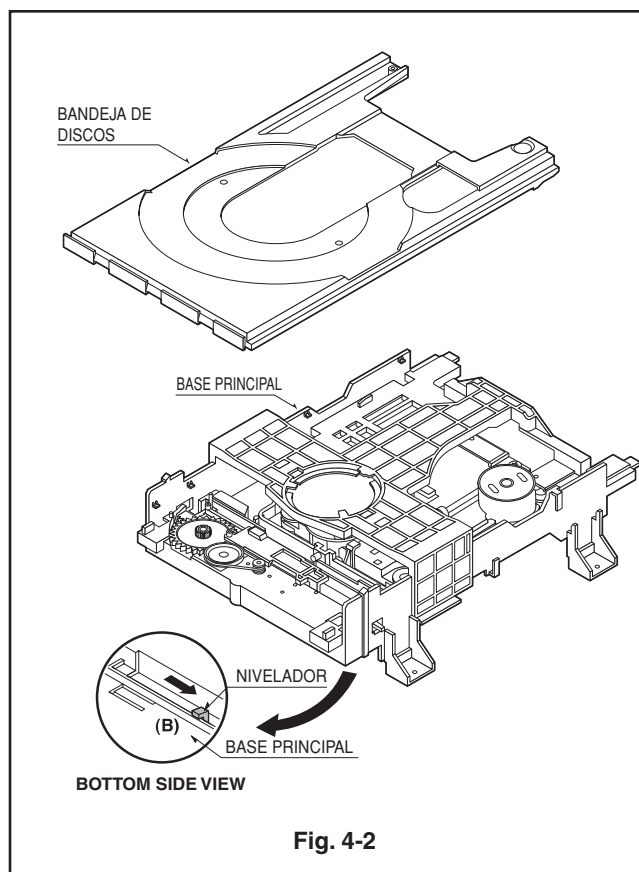

Fig. 4-2
2. BANDEJA DE DISCO (FIG. 4-2)